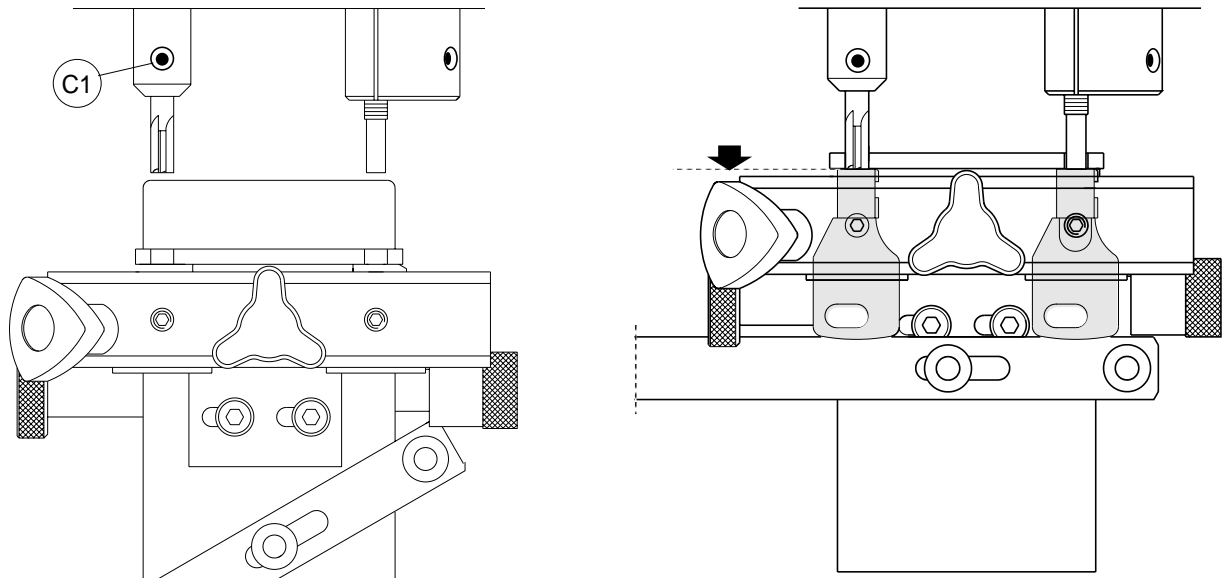

Fig. 7
- 2) fit the new cutter, but do not lock in with the grub screw (C1) (fig. 7).
- 4) take the slide forward so that the tracer point comes into contact with the key. In this position use the grub screw to lock the cutter butting against the key (fig. 7).